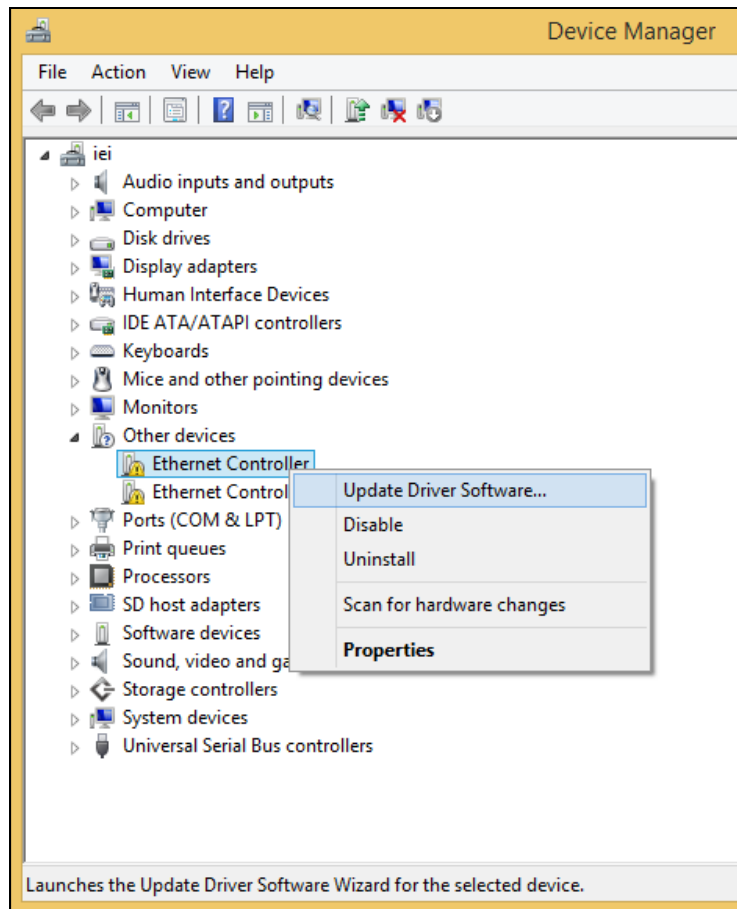

Figure 6-15: Device Manager List
Step 4: A list of system hardware devices appears (**Figure 6-15**).
Step 12: Right-click the other Ethernet controller that has question marks next to it as shown in **Figure 6-15**. Repeat **Step 6** – **Step 11** to install the second Ethernet controller driver.